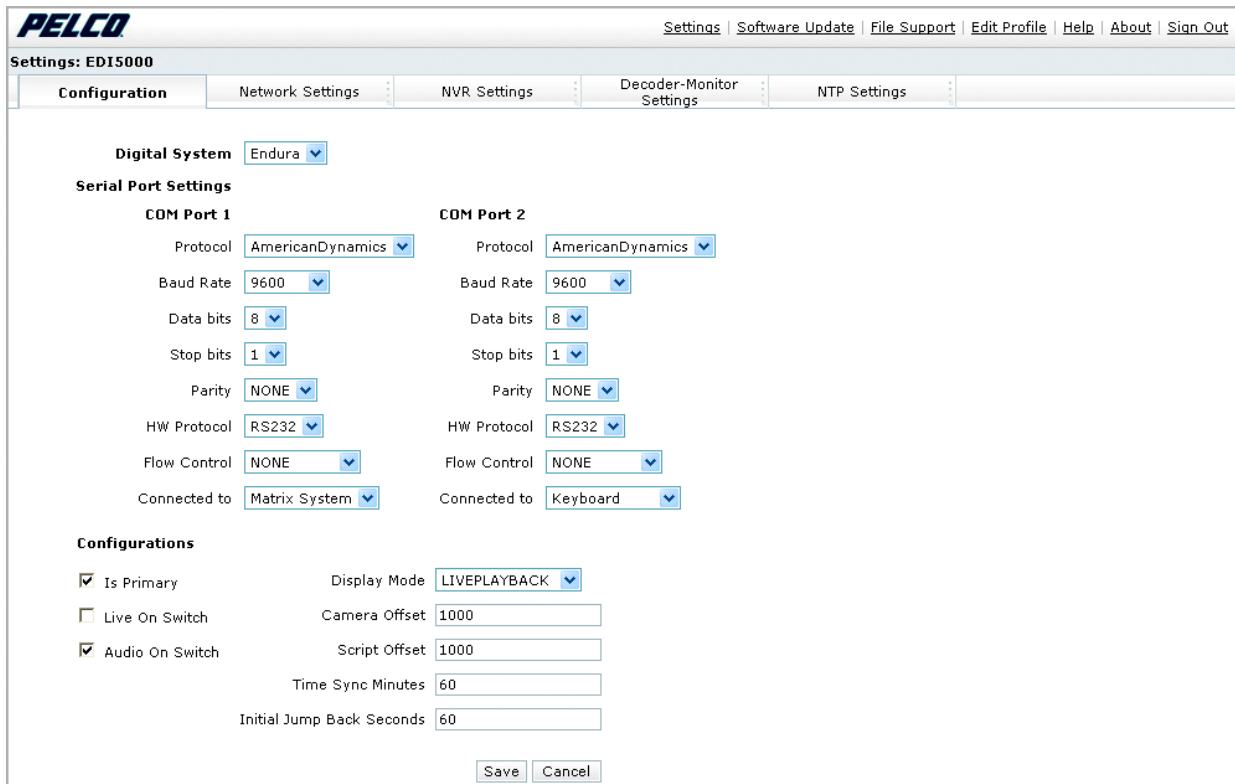

Figure 4. The EDI5000 System Configuration Software
5. Configure the serial port connection settings as shown in Figure 4.